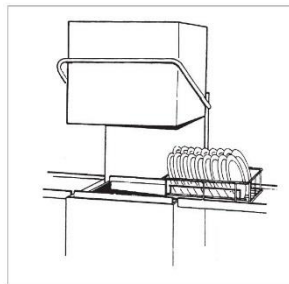

Fig.20
- 4- Load rack machine with dishes as described on the figure. For undercounter models load the rack front side. For hoodtype models load the rack front side or sideways (if necessary switch rack support clockwise). (Fig.20)